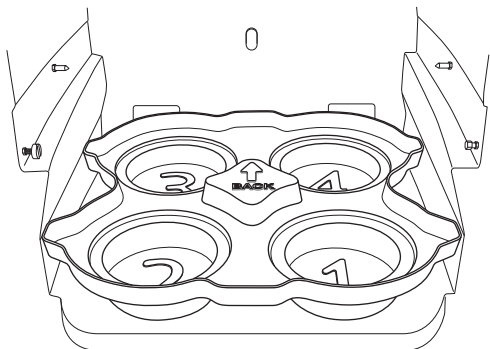

Figure 2-4 Installing the locating base
1. Slide the locating base into the bottom of the refrigerated compartment (Figure 2-4). Note that the arrow must be pointing toward the back of the refrigerator.